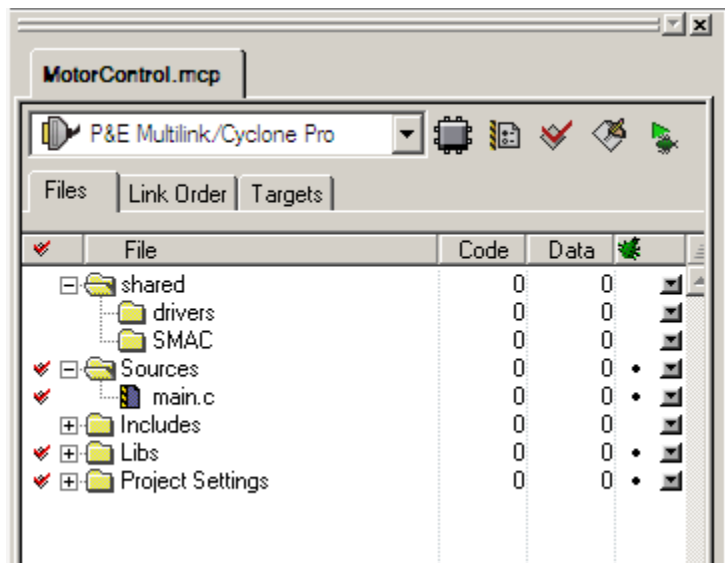

Figure 3. New Folders Tree
2. Move the drivers and SMAC folders into the folder called shared. See Figure 3.